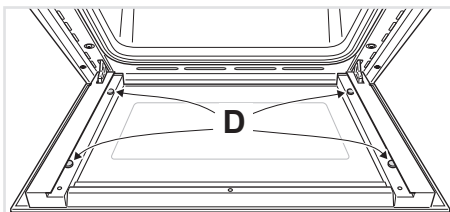

Figure 20a
- Check that the four rubber pads are in place ("D" in Fig. 20a).